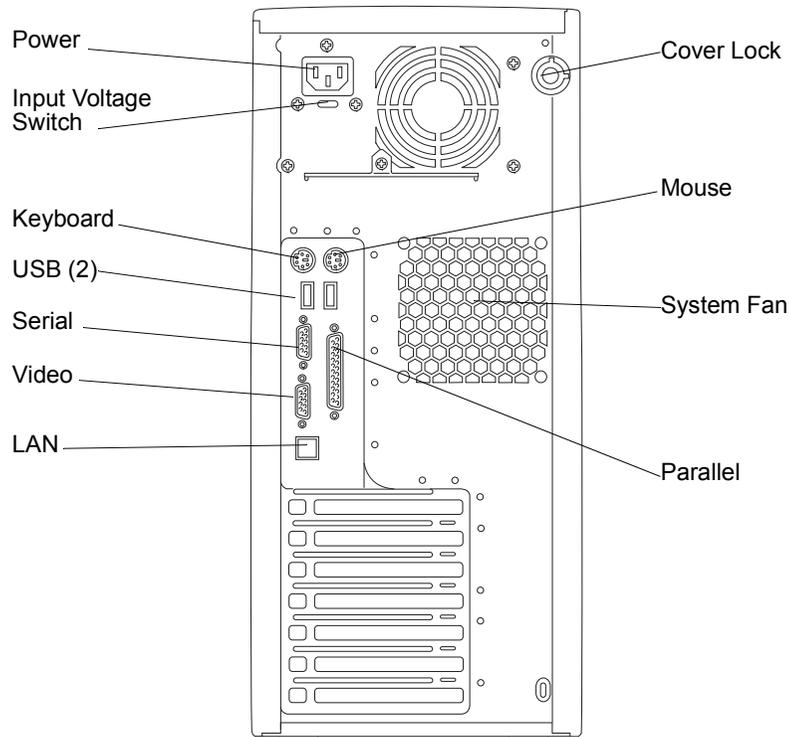

Figure 3-24. Rear Panel Ports
1. Place the monitor, keyboard, and mouse near the hp server and connect these devices to the server using the connections provided on the rear of the chassis. See Figure 3-24.